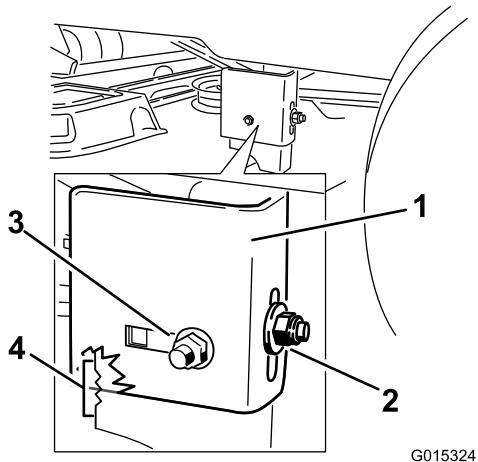
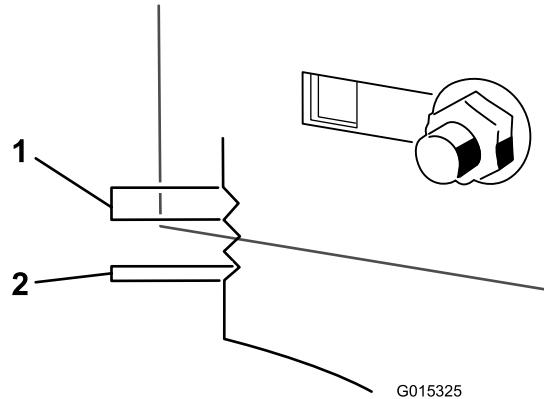

Figure 51
Figure 52
9. Loosen the rear locking nut on the hanger bracket (Figure 51).
10. Loosen the side locking nut on the hanger bracket just enough to allow the hanger to be adjusted (Figure 51). Use the notches on the welded bracket to measure the amount of adjustment. Each notch surface is equivalent to 6.35 mm (1/4 inch), while a single side is 3.18 mm (1/8 inch) as shown in Figure 52.
- 12. Stop the deck at the adjusted position and tighten the side locking nut on the hanger bracket to hold the new position (Figure 51).